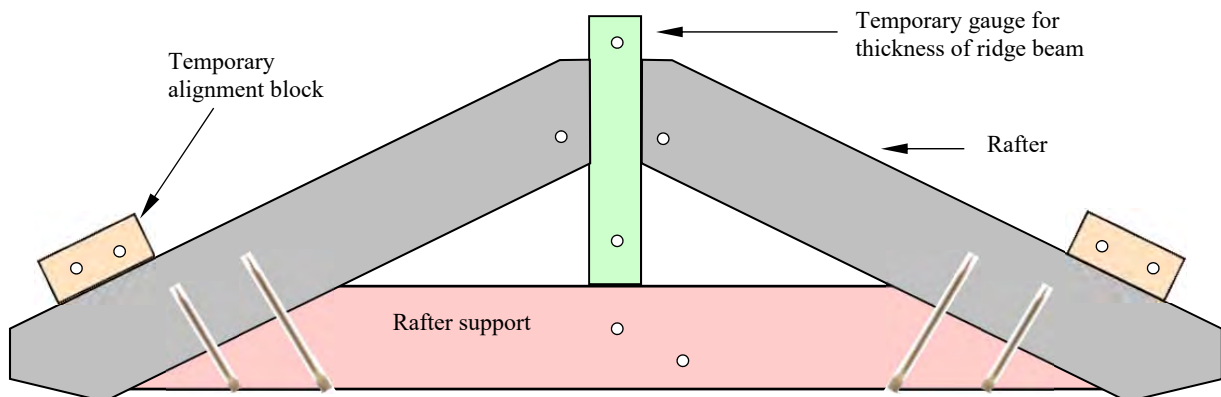

Figure 11. Working rafters sub-assembly
Cut the two rafter supports. Start with a 44" section of 2 x 4 and miter both ends at 60°. The 44" is a rough measurement that may vary depending on the thickness of the ridge beam, miter angles of the top of the rafters, and the vertical distance between the rafter support and the ridge beam (see Figure 11 below). Make a rough layout of the rafters and the simulated ridge beam before cutting the miters. If the rafter support is a bit short, simply raise it up slightly.
9. Now working from the bottom of the rafter support, drill four countersink and pilot holes at an angle perpendicular to the rafters as shown in Figure 11.